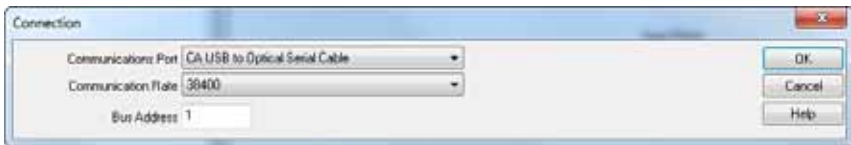

Figure 8-5
**NOTE:** If a connection has not been previously established, the Communication dialog box will appear (see Fig. 8-5).